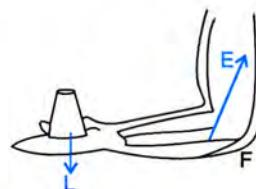

Fig. 3.9 Raising a load kept on a palm (Forearm as Class III lever)
- (3) **Class III lever in raising a load by forearm :** Fig. 3.9 shows the action of